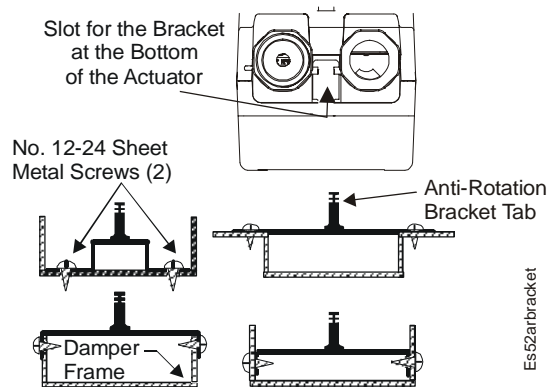

Figure 4: Anti-rotation Mounting Bracket Positions
1. Bend or cut the anti-rotation mounting bracket to fit the damper frame or duct as shown in Figure 4. (The bracket can be bent to fit a round damper.)
3. Position the anti-rotation mounting bracket into the slot at the bottom of the actuator. (See Figure 4).